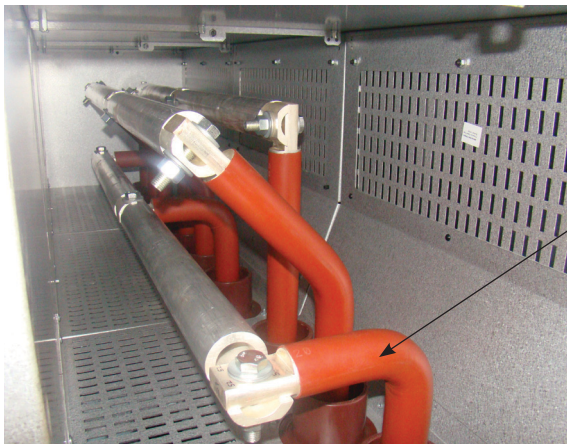

Fig.9: Busbar Compartment
- Connecting and disconnecting the control wiring plug (Fig.9 or 27) is possible only in the test position of the